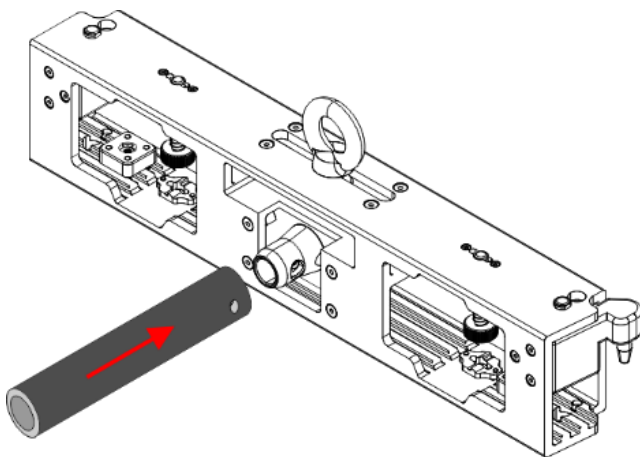

Fig. 14
- 01) Put the P-truss in front of the **truss installation opening (05)**, as shown in Fig. 14.